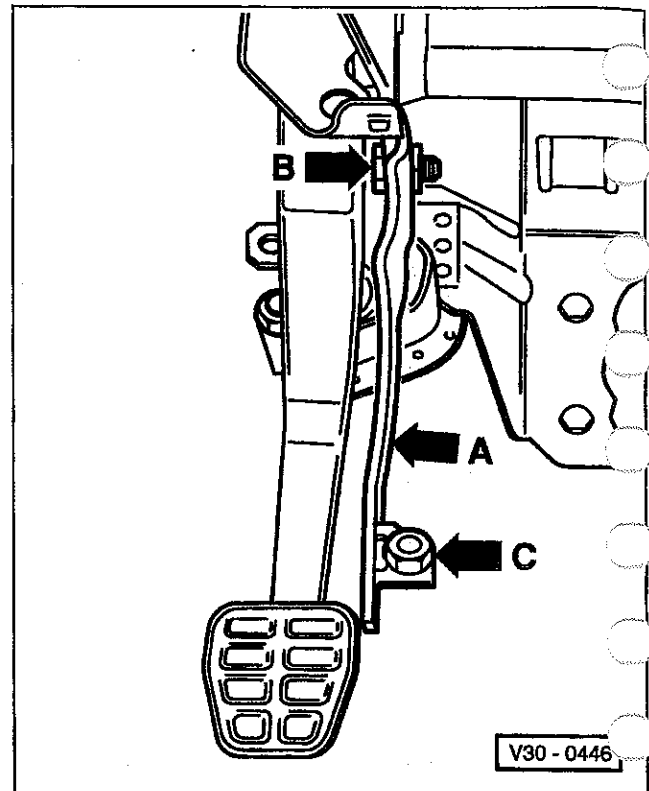

Fig. 9. Remove bolt (B) and nut (C) to remove support bracket
7. Remove mounting bracket support by removing bolt and nut shown in Fig. 9